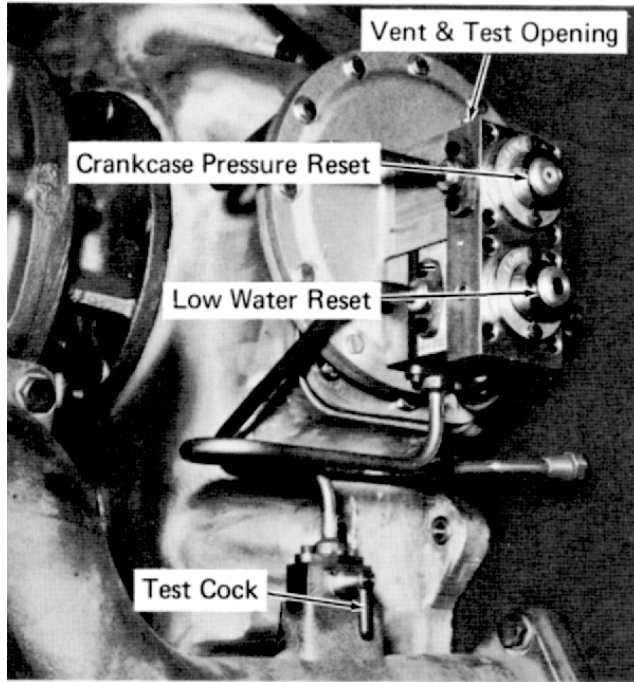

Fig. 3-2 - Low Water And Crankcase (Oil Pan) Pressure Detector
- Observe that the crankcase (oil pan) pressure and low water detector reset buttons are set (pressed in). If the buttons protrude, press and hold for 5 seconds immediately after engine starts, Fig. 3-2.